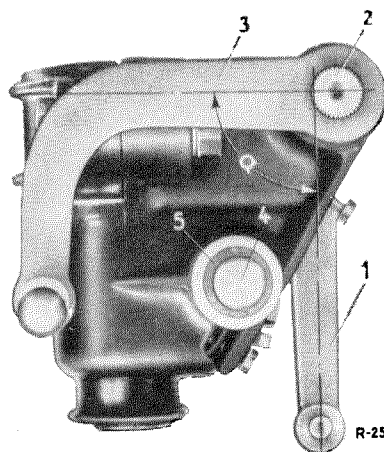

Fig. 26 — 14/2
1. Loosen the clamping screw for the relay lever (1) and remove the relay lever (Fig. 26 — 14/2).
3. Take a suitable drift and carefully drive out toward the outside first the left needle bearing (17) and then the right needle bearing (17a) (Fig. 26 — 14/1).
Check the lever (3) to see whether it is firmly seated on the relay shaft (2) and, if necessary, weld the lever to the shaft (Fig. 26 — 14/2).
6. Drive or press the left and right needle bearings into the bearing assembly. The needle bearings must fit snugly against the collar of the bearing assembly (see Fig. 26 — 14/1).
7. Slide a washer (15) and a sealing ring (16) onto the relay shaft, smear the relay shaft with roller bearing grease, and install it in the bearing assembly.
8. Then slide a sealing ring (16) and a washer (15) together with a spring washer (Part No. 121 990 00 48) onto the free end of the relay shaft (see Fig. 26 — 14/1).
9. Install the relay lever (1) on the relay shaft (2) serrations in such a way that the relay lever (1) is at right angles to the stationary shaft lever (3) (Fig. 26 — 14/2). Then tighten up the clamping screw of the relay lever (1). Make sure that the spring washer (Part No. 121 990 00 48) is not fastened too tightly.
1. Use suitable pliers to remove the snap ring (9) (see Fig. 26 — 14/1).
2. Press out the rubber bearing (8) toward the inside by means of a suitable drift.
Do not drive it out! (see Fig. 26 — 14/1).